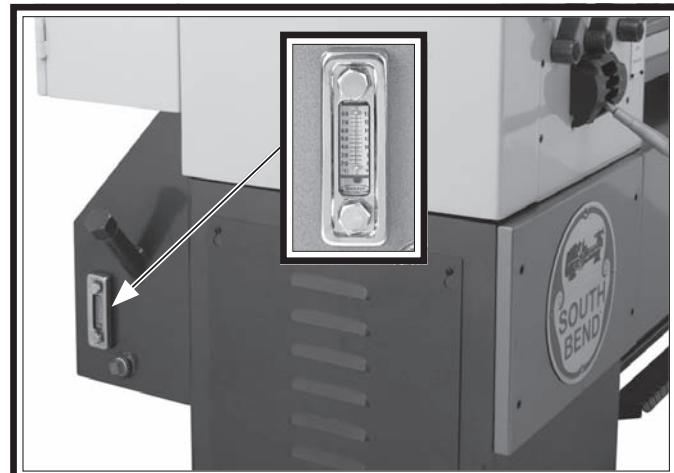

Figure 29. Oil temperature thermometer.
**Do not leave the lathe unattended during the break-in period. Make sure that you keep a close eye on the headstock oil thermometer (Figure 29) on the oil reservoir. If the headstock oil temperature reaches 160°F, shut the lathe down and let the system cool before resuming break-in.**